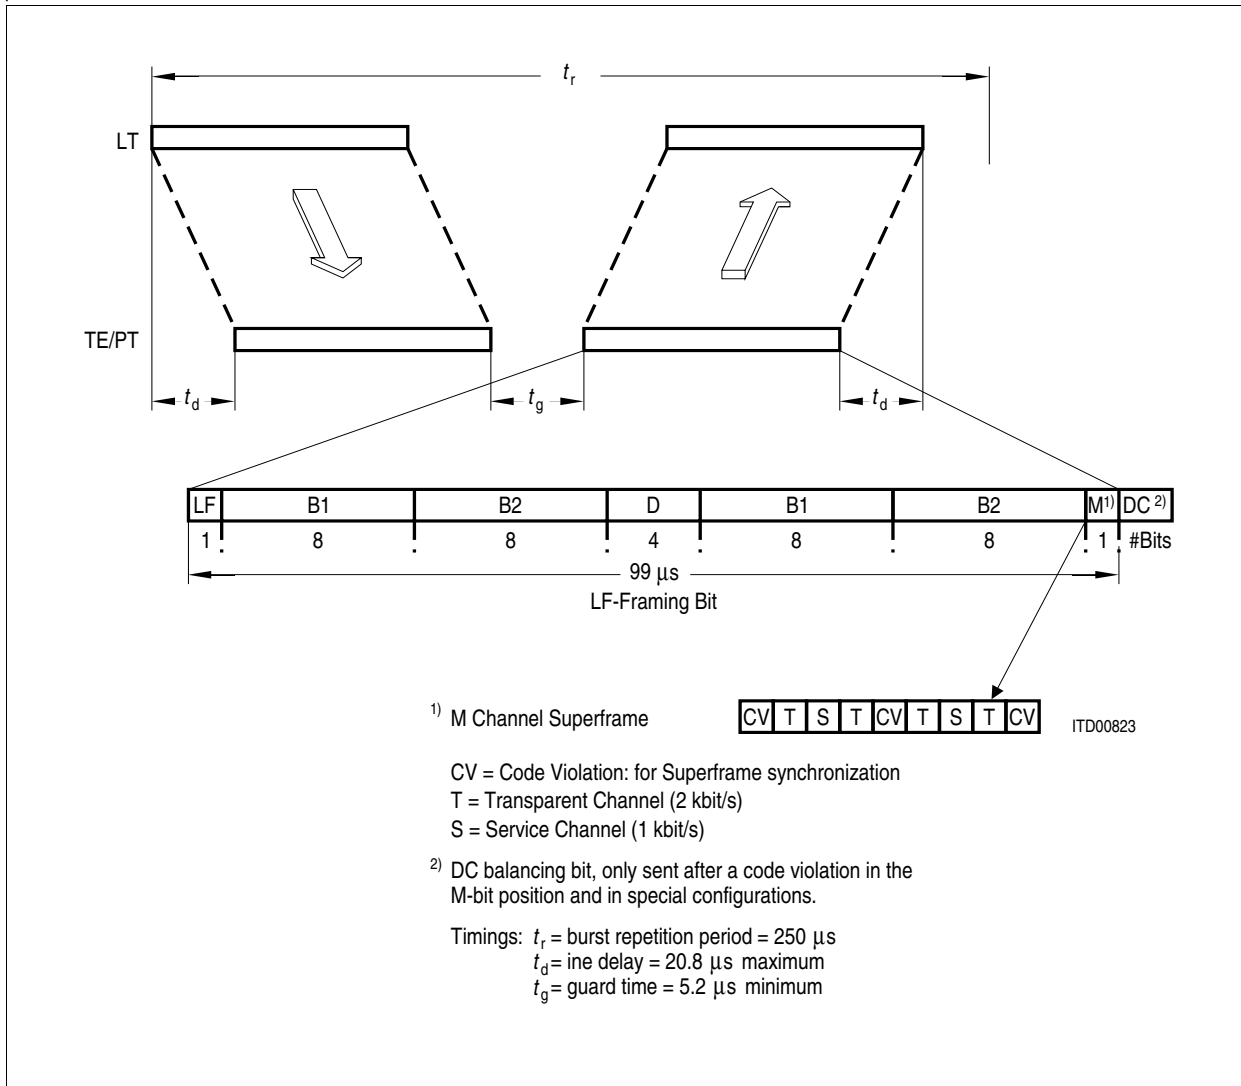

Figure 9 U_{PN} Interface Frame Structure
The frame structure of the data transfer between the exchange (PBX, LT) and the terminal (TE) is depicted in Figure 9.
- A frame transmitted by the exchange (PBX) is received by the terminal (TE) after a given propagation delay t_d .